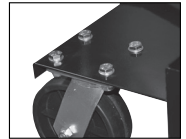

Figure 2
2. Assemble four M10 hex head screws [9], four M10 nuts [12], and eight M10 flat washers [10] per caster [11] using 17mm socket and wrench (Figure 2).